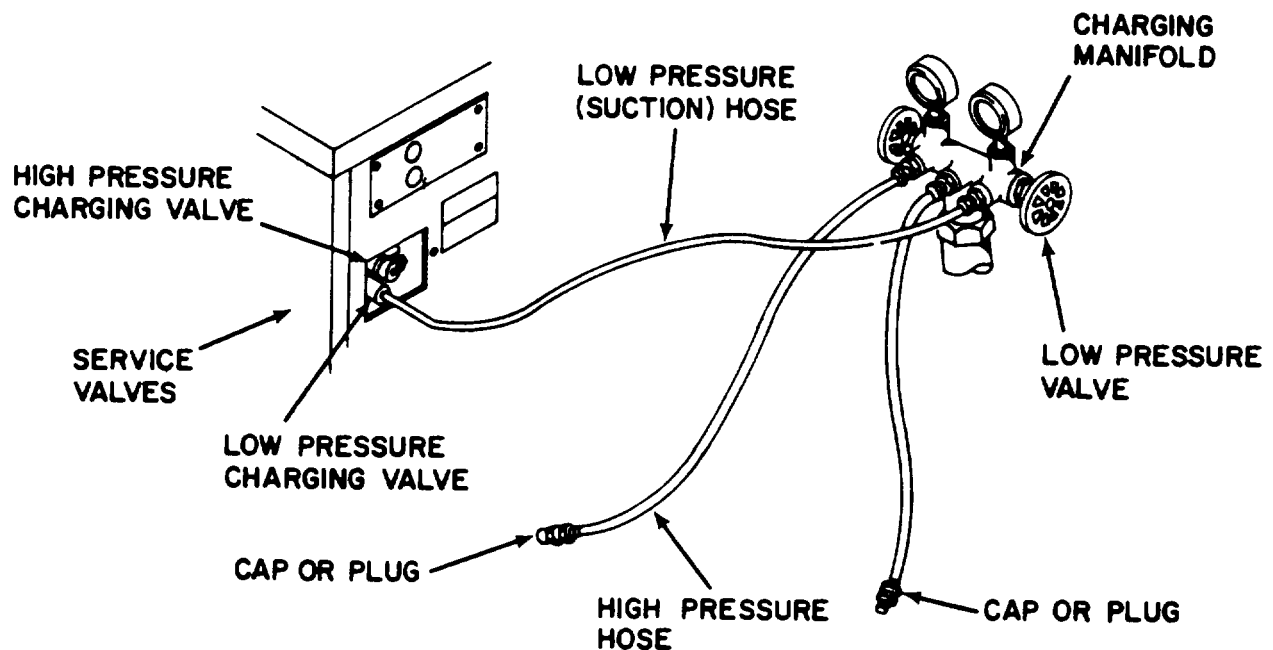

Figure 5-18. Low Pressure Test Setup.
3. Connect a charging manifold, low pressure (suction) hose to the low pressure service valve. See Figure 5-18. Make sure the high pressure hose and the center hose on the charging manifold are either capped or plugged. Close the manifold valves.